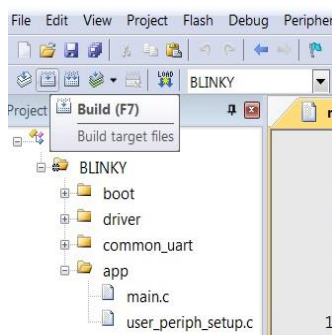

Figure 23: Blinky Project: Project Building
8. Build the project by pressing F7 key, or clicking the Build button, see **Figure 23**.